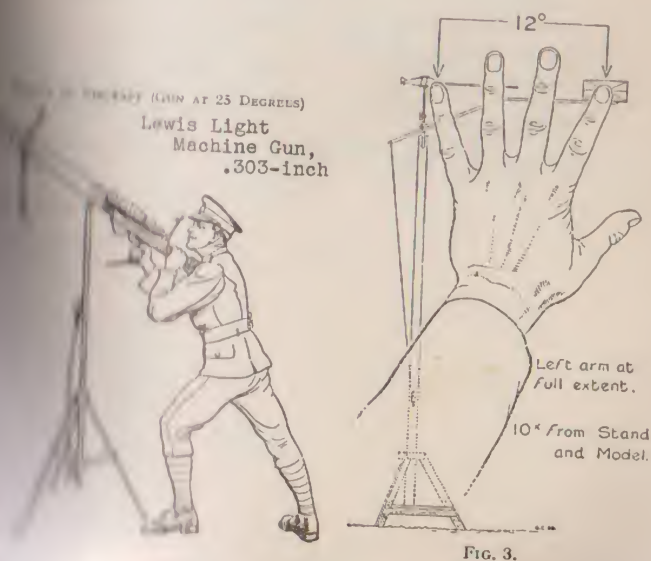

FIG. 3.
- (iii) Question squad on the method of measuring degrees taught in application of fire and explain that each man must measure for himself what part of his left hand when at arm's length will give 12 degrees from the nose of the aeroplane to the centre of the rectangle (see Fig. 3). The parts of the hand which give this measurement at ten yards will also give 12 degrees at any range.